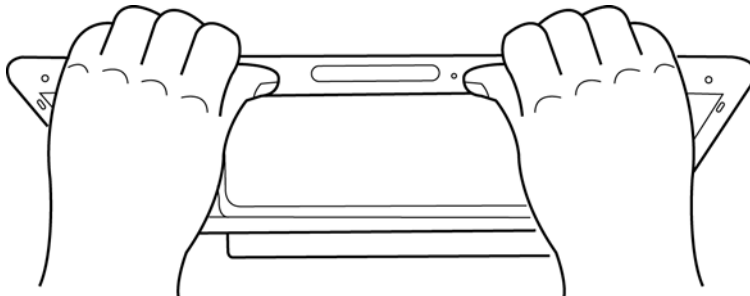

Figure 4.42 Pressing the bezel upside hooks
6. Press the bezel upside hooks as shown in Figure 4.42.